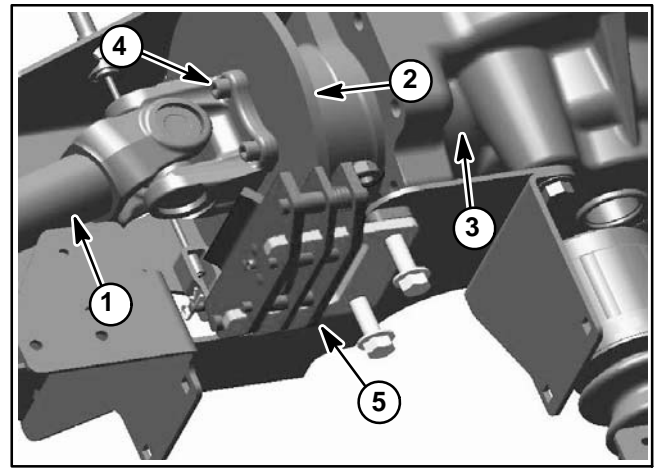

Figure 42
3. Loosen and remove four (4) socket head screws that secure driveshaft and parking brake rotor to rear differential input shaft (Fig. 42). The center of the parking brake rotor is fitted to shoulder on differential input shaft and, with parking brake applied, the rotor can remain in place during driveshaft removal.